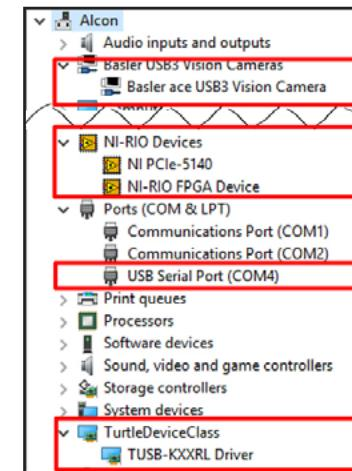

Figure 3-19 Device Status
- 11.5 Check the connection status of the 4 devices shown in **Figure 3-19**.